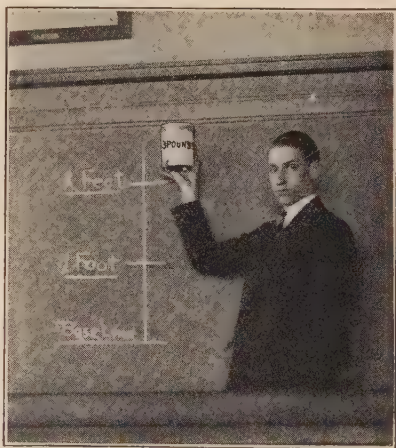

FIGURE 18. — HOW WORK IS MEASURED.
36. Work Can Be Measured.— If you lift a pound of sugar up from a counter through a distance of one foot, you have used a push or a pull to overcome resistance (weight). This push or pull we call a force equal to one pound. You have done one foot-pound of work. *Work, then, is measured by multiplying the force by the distance* (Fig. 18). In other words, the amount of work done (foot-pounds) equals the pounds $\times$ the distance